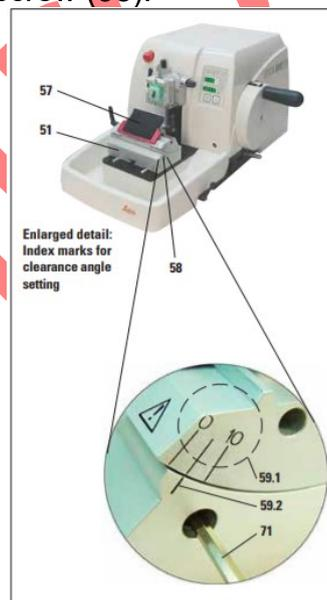

Figure 6 Adjusting the clearance angle
- Inserting the knife holder (Figure 6)
- Loosen the screw (58) using an Allen key size 4 (71) until the knife holder (57) can be moved.
- Place the knife holder (57) with the underside groove onto the T-piece (56) of the knife holder base (51).
- To clamp, retighten the screw (58).